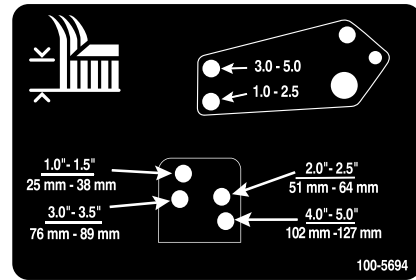

Figure 26
- Align the damper-link holes with the selected height-of-cut bracket holes in the mower-deck frame, insert the clevis pins, and install the hairpin cottes (Figure 26).